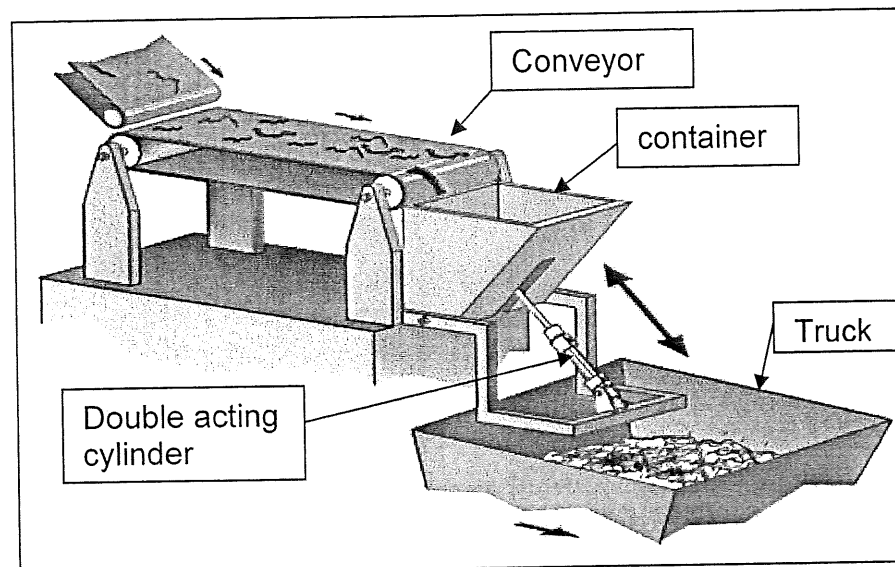

Figure 1
- b) As shown in figure 1, a conveyor belt transports metal swarf into a tipping container. When the container is full, it is emptied into a truck. A double-acting cylinder is used for this purpose, activated by a manual-actuated 4/2-way valve. The piston rod of the cylinder is advanced while the container is in position to receive swarf.